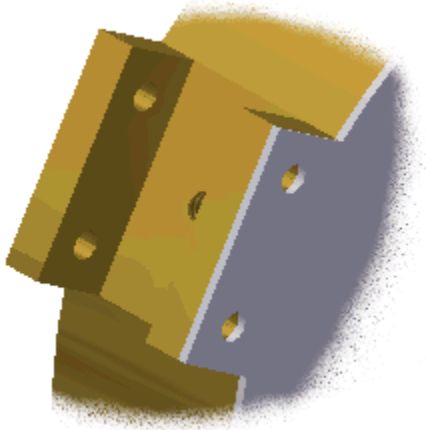

Figure 13: Circle profiles removed from extrusion.
6. In-place edit the cover, and edit the Extrusion1 feature. Remove the two circle profiles for the through holes, and then return to the assembly environment. The cover should match the one shown in Figure 13.